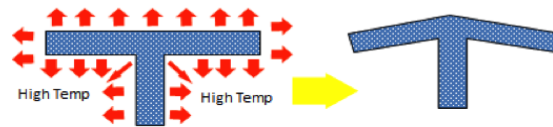

Figure 2
- Heat Transfer Capacity** – The nature of the heat flow path may restrict the amount of heat that can be transferred. For example, there is little or no chance for transferring heat from the tip of long core pin to the mold base. Unless cored for cooling, pins that project into the cavity more than about 5 times the pin diameter are apt to be 50 to 100°F (30-60°C) hotter than the rest of the mold. This can cause warpage and may cause part sticking and ejection problems. Another restricted heat flow problem occurs at molded ribs, as illustrated in Figure 2.